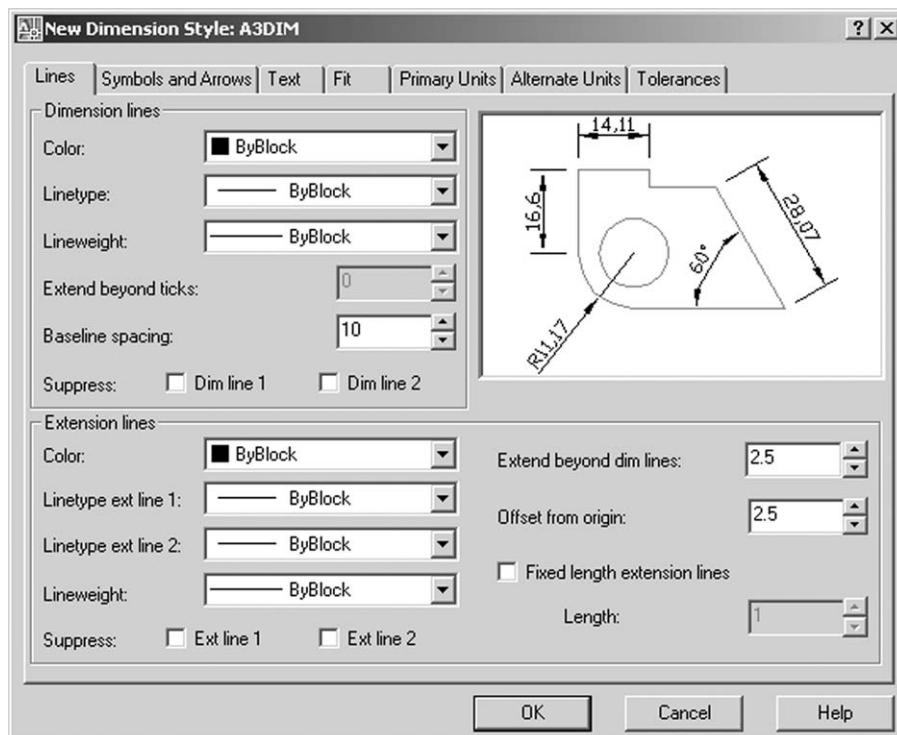

Figure 14.4 The Lines tab dialogue box for the A3DIM dimension style.
- and dialogue box as Figure 14.4.